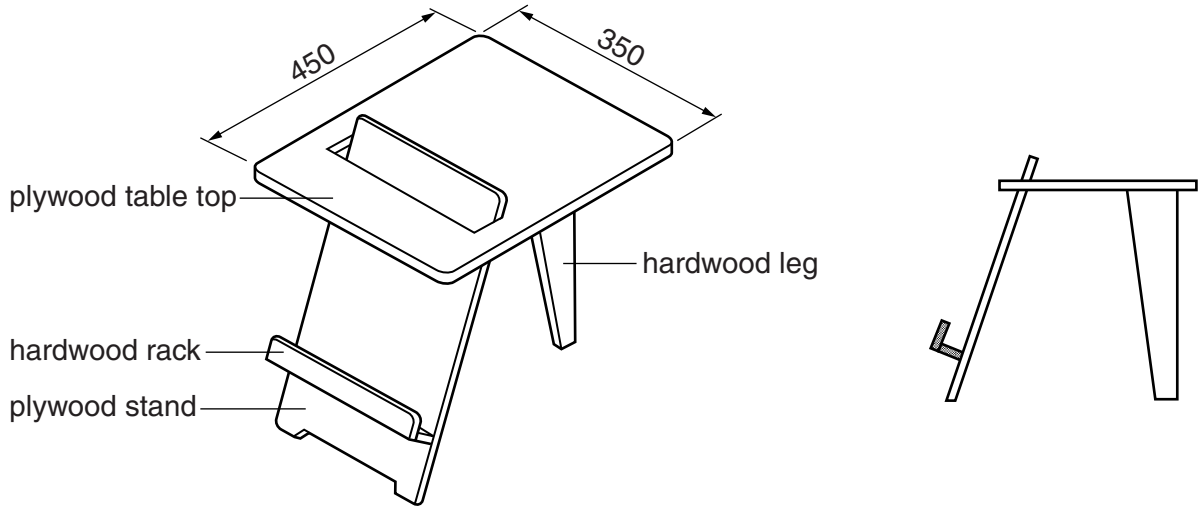

Fig. 7
- 11** Fig. 7 shows views of a small table that includes a magazine rack. The product is designed as flat-pack for self-assembly.
(c) Use sketches and notes to show how the stand could be joined permanently to the table top as shown in Fig. 7.